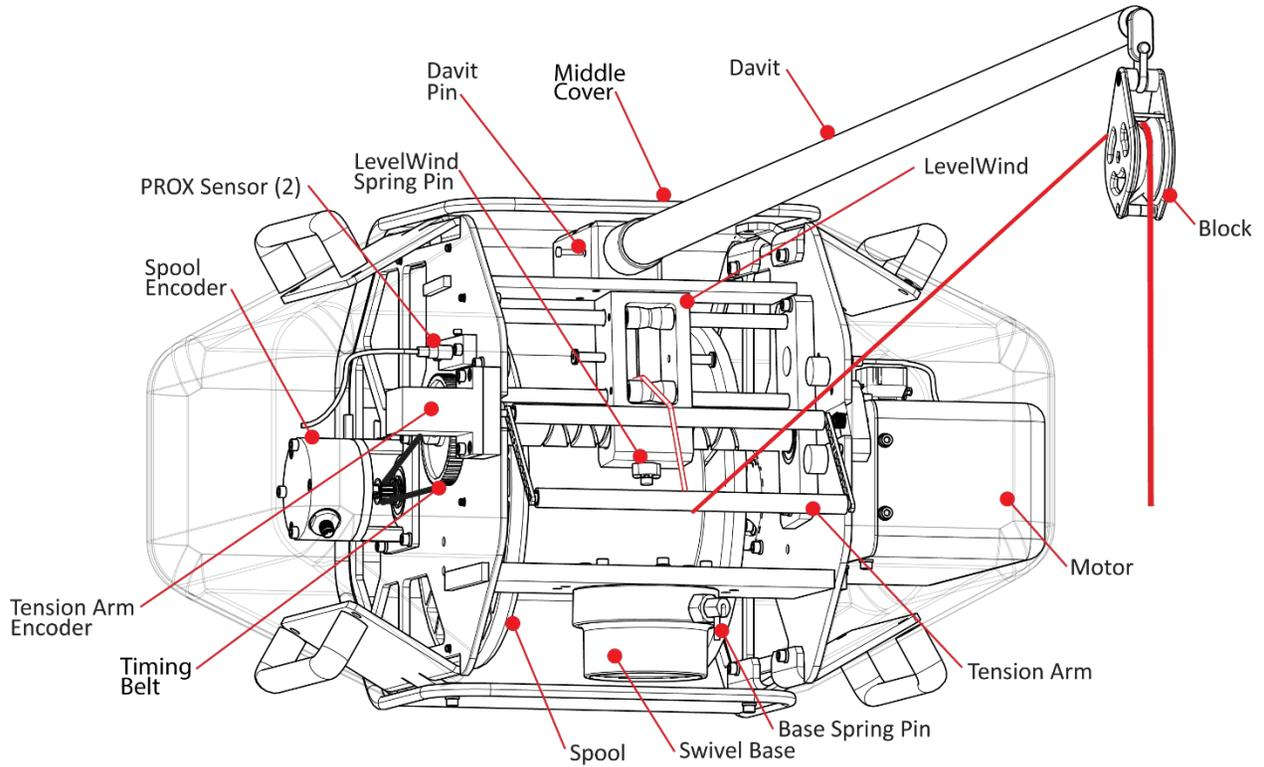
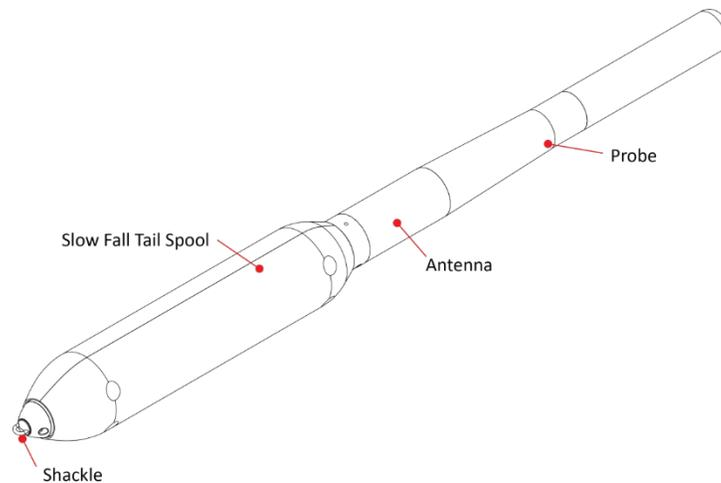

Figure 1. rapidCAST Winch Assembly Overview
Figure 4. Probe Assembly Overview
- Added callout for tension arm encoder to Figure 1 Overview.
<p>✔ Check that you know the Terminology used</p>	<p>📖 Reference Figure 1 through Figure 4.</p>